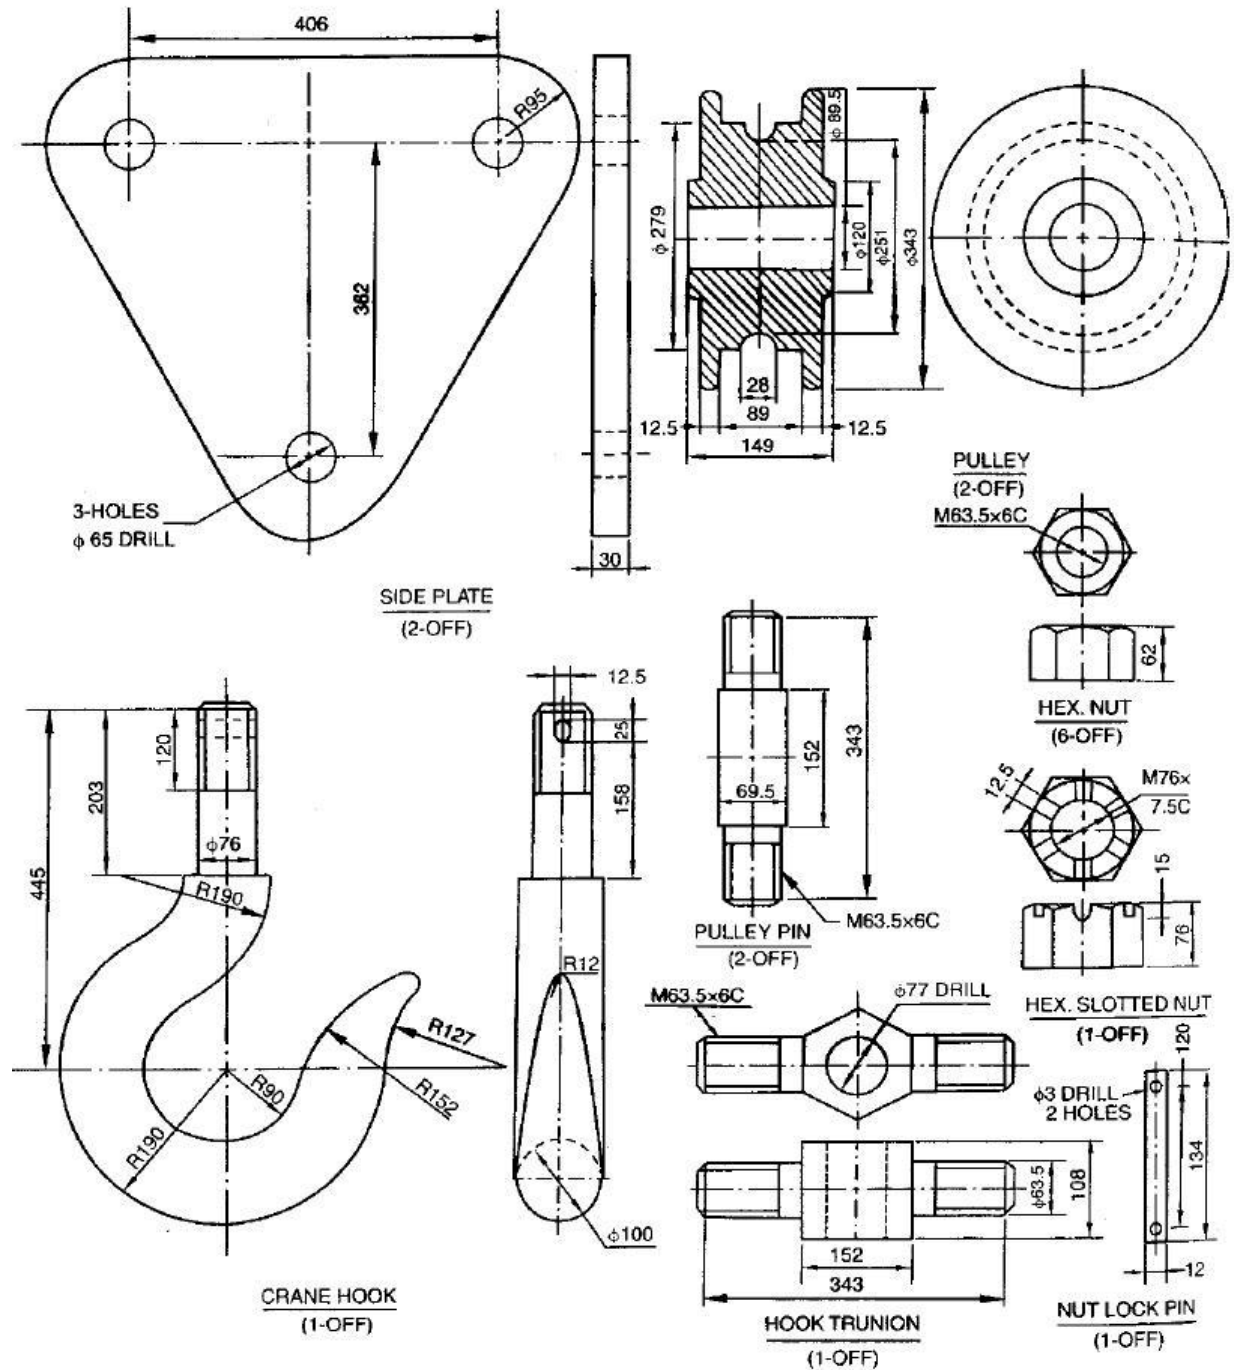

Fig. 1
5. Figure 1 shows the details of a crane hook. Assemble the parts and draw (a) front view full in section (b) right side view. Also prepare bill of materials.